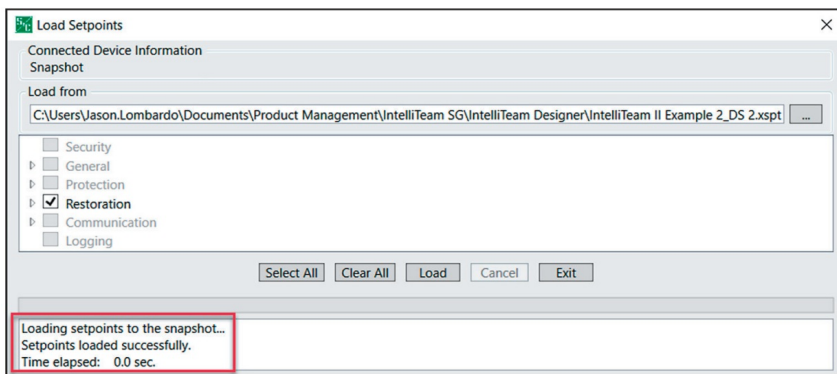

Figure 20. The setpoints loaded successfully verification message.
**STEP 5.** When the setpoints are loaded into IntelliLink software, a verification message is displayed. **See Figure 20.**